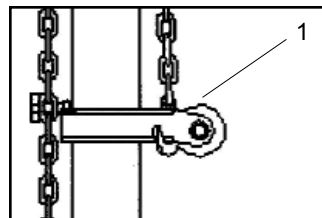

Figure 33
9. When tower is no longer needed, disconnect foot pump's hydraulic hose from tower ram's quick coupler, remove tower chain and hook from vehicle and store collar using one of the three methods shown in Figures 33, 34 and 35.